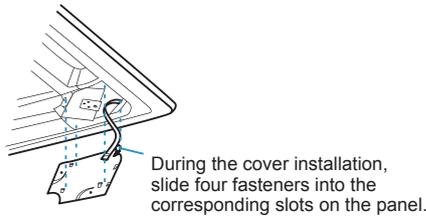

Figure 3.21
(2) Gently press the installation cover into the panel. See Figure 3.21.